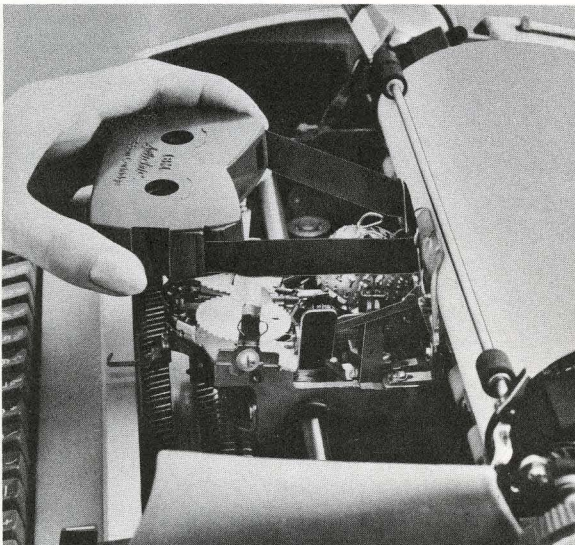

Figure 20. Place Cartridge on Two Ribbon Spindles
4. Then place the cartridge on the two ribbon spindles and press down evenly and firmly, Figure 20.